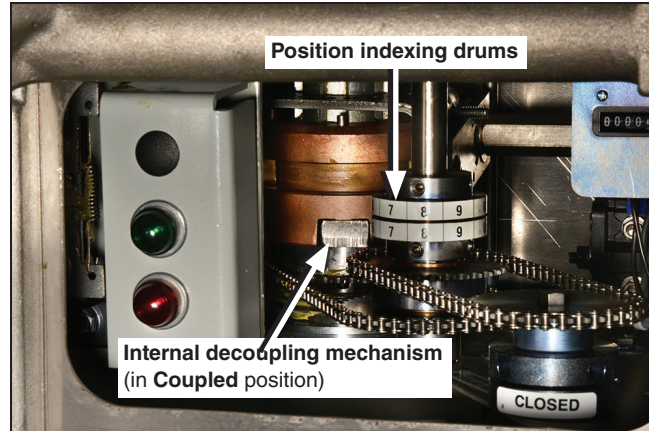

Figure 7. Mark VI CS-1A Switch Operator in Coupled position.
- STEP 2.** Turn the MANUAL OPERATING handle slowly until the position-indexing drums are numerically aligned. See Figure 7.